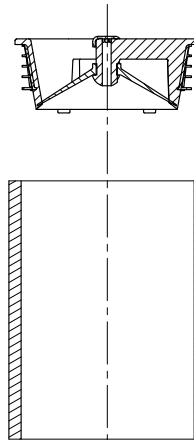

Fig. 12
- 6. For IC, IG and NPT outlet connections, Align Z1072 over center of pipe. See Fig. 12.